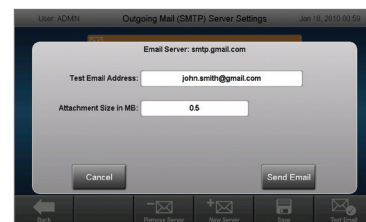

Fig. 12. Test Email window.
7. Enter the email address and an attachment size, then touch **Send Email** (Figure 12).